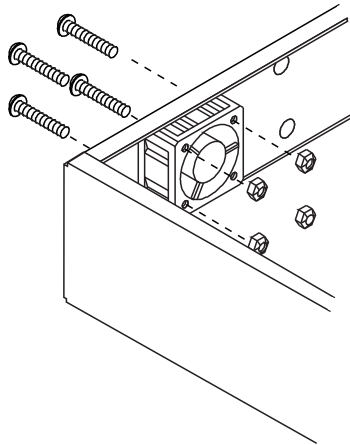

Figure 3-7. Cooling Fan Screws
- 3 Use a #1 Phillips screwdriver and a 1/4-inch wrench or nut driver to remove the four 4-40 x 1-inch panhead machine screws and 1/4-inch self-locking hex nuts that attach the cooling fan to the chassis (see Figure 3-7).